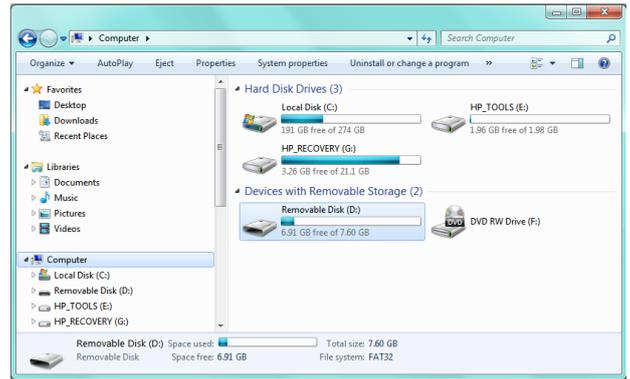

Figure 2 'Computer' Folder Opened
**Note:** If using Windows 7, the file system will be displayed as per *Figure 2*. If the file system is not displayed, right-click on the USB drive and select 'Properties'.